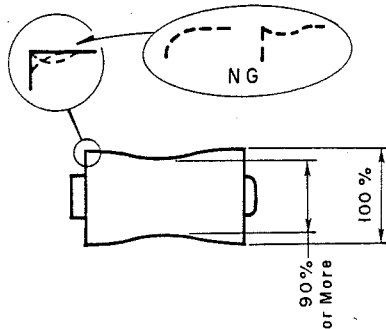

Fig. 6.34 Envelope Waveform Check (Rising Characteristics)
3. If the waveform waves as dotted line shown in Fig. 6.34, repeat 6.7 through 6.12 after slightly loosening S1, T1 fixing screws (M1.4 Philips Pan Head). For loosening the screws refer to 6.10-6.